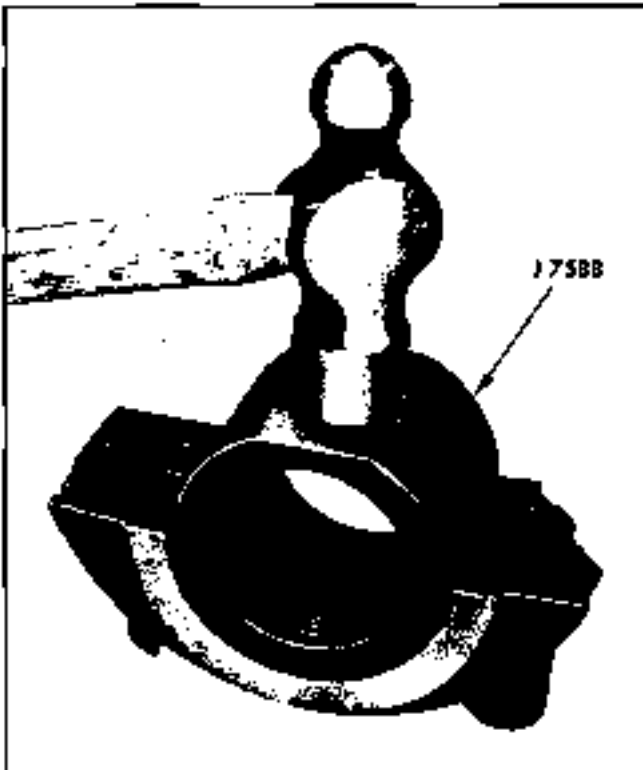

Fig. 6-107 Forming New Seal in Cap
6. Form a new seal in the cap (Fig. 6-107).
7. Remove the newly formed seal from the cap and cut four (4) pieces approximately 3/8" long from this seal.
9. Form another new seal in the cap (Fig. 6-107).